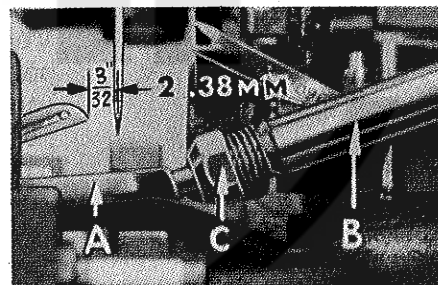
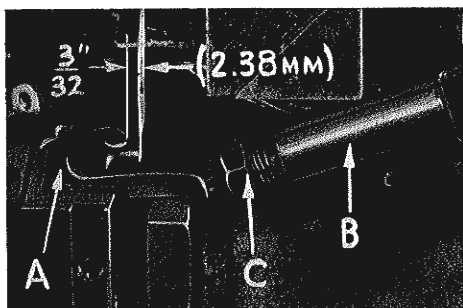

Fig. 6
Fig. 6A
At this point, insert lower looper (A, Fig. 6) on Styles 39500 QG, SD and TC or lower spreader (A, Fig. 6A) on Style 39500 RN into bar (B). With lower looper or spreader at left end of its stroke, set looper or spreader point $3/32$ inch (2.38 mm) from centerline of needle (Fig. 6 or 6A) using looper gauge No. 21225- $3/32$. Do not have lower looper or spreader deflecting needle. Tighten nut (C). Now assemble differential (front) feed dog.